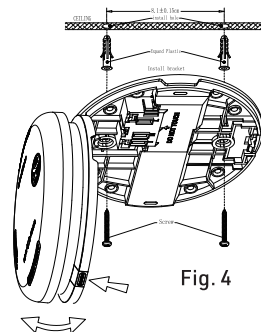

Fig. 4
3. Screw the backplate to the mounting surface using appropriate fixings. [PTO See Fig.4]